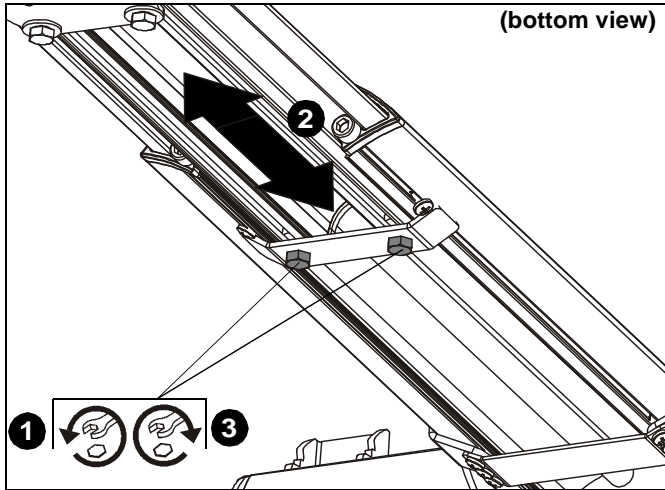

Figure 67
- Loosen two bolts holding stop bracket in place on underside of short throw projector mount. (See Figure 67)
- Adjust mount to desired extension length. (See Figure 67)
- Tighten two bolts holding stop bracket to secure mount in desired position. (See Figure 67)